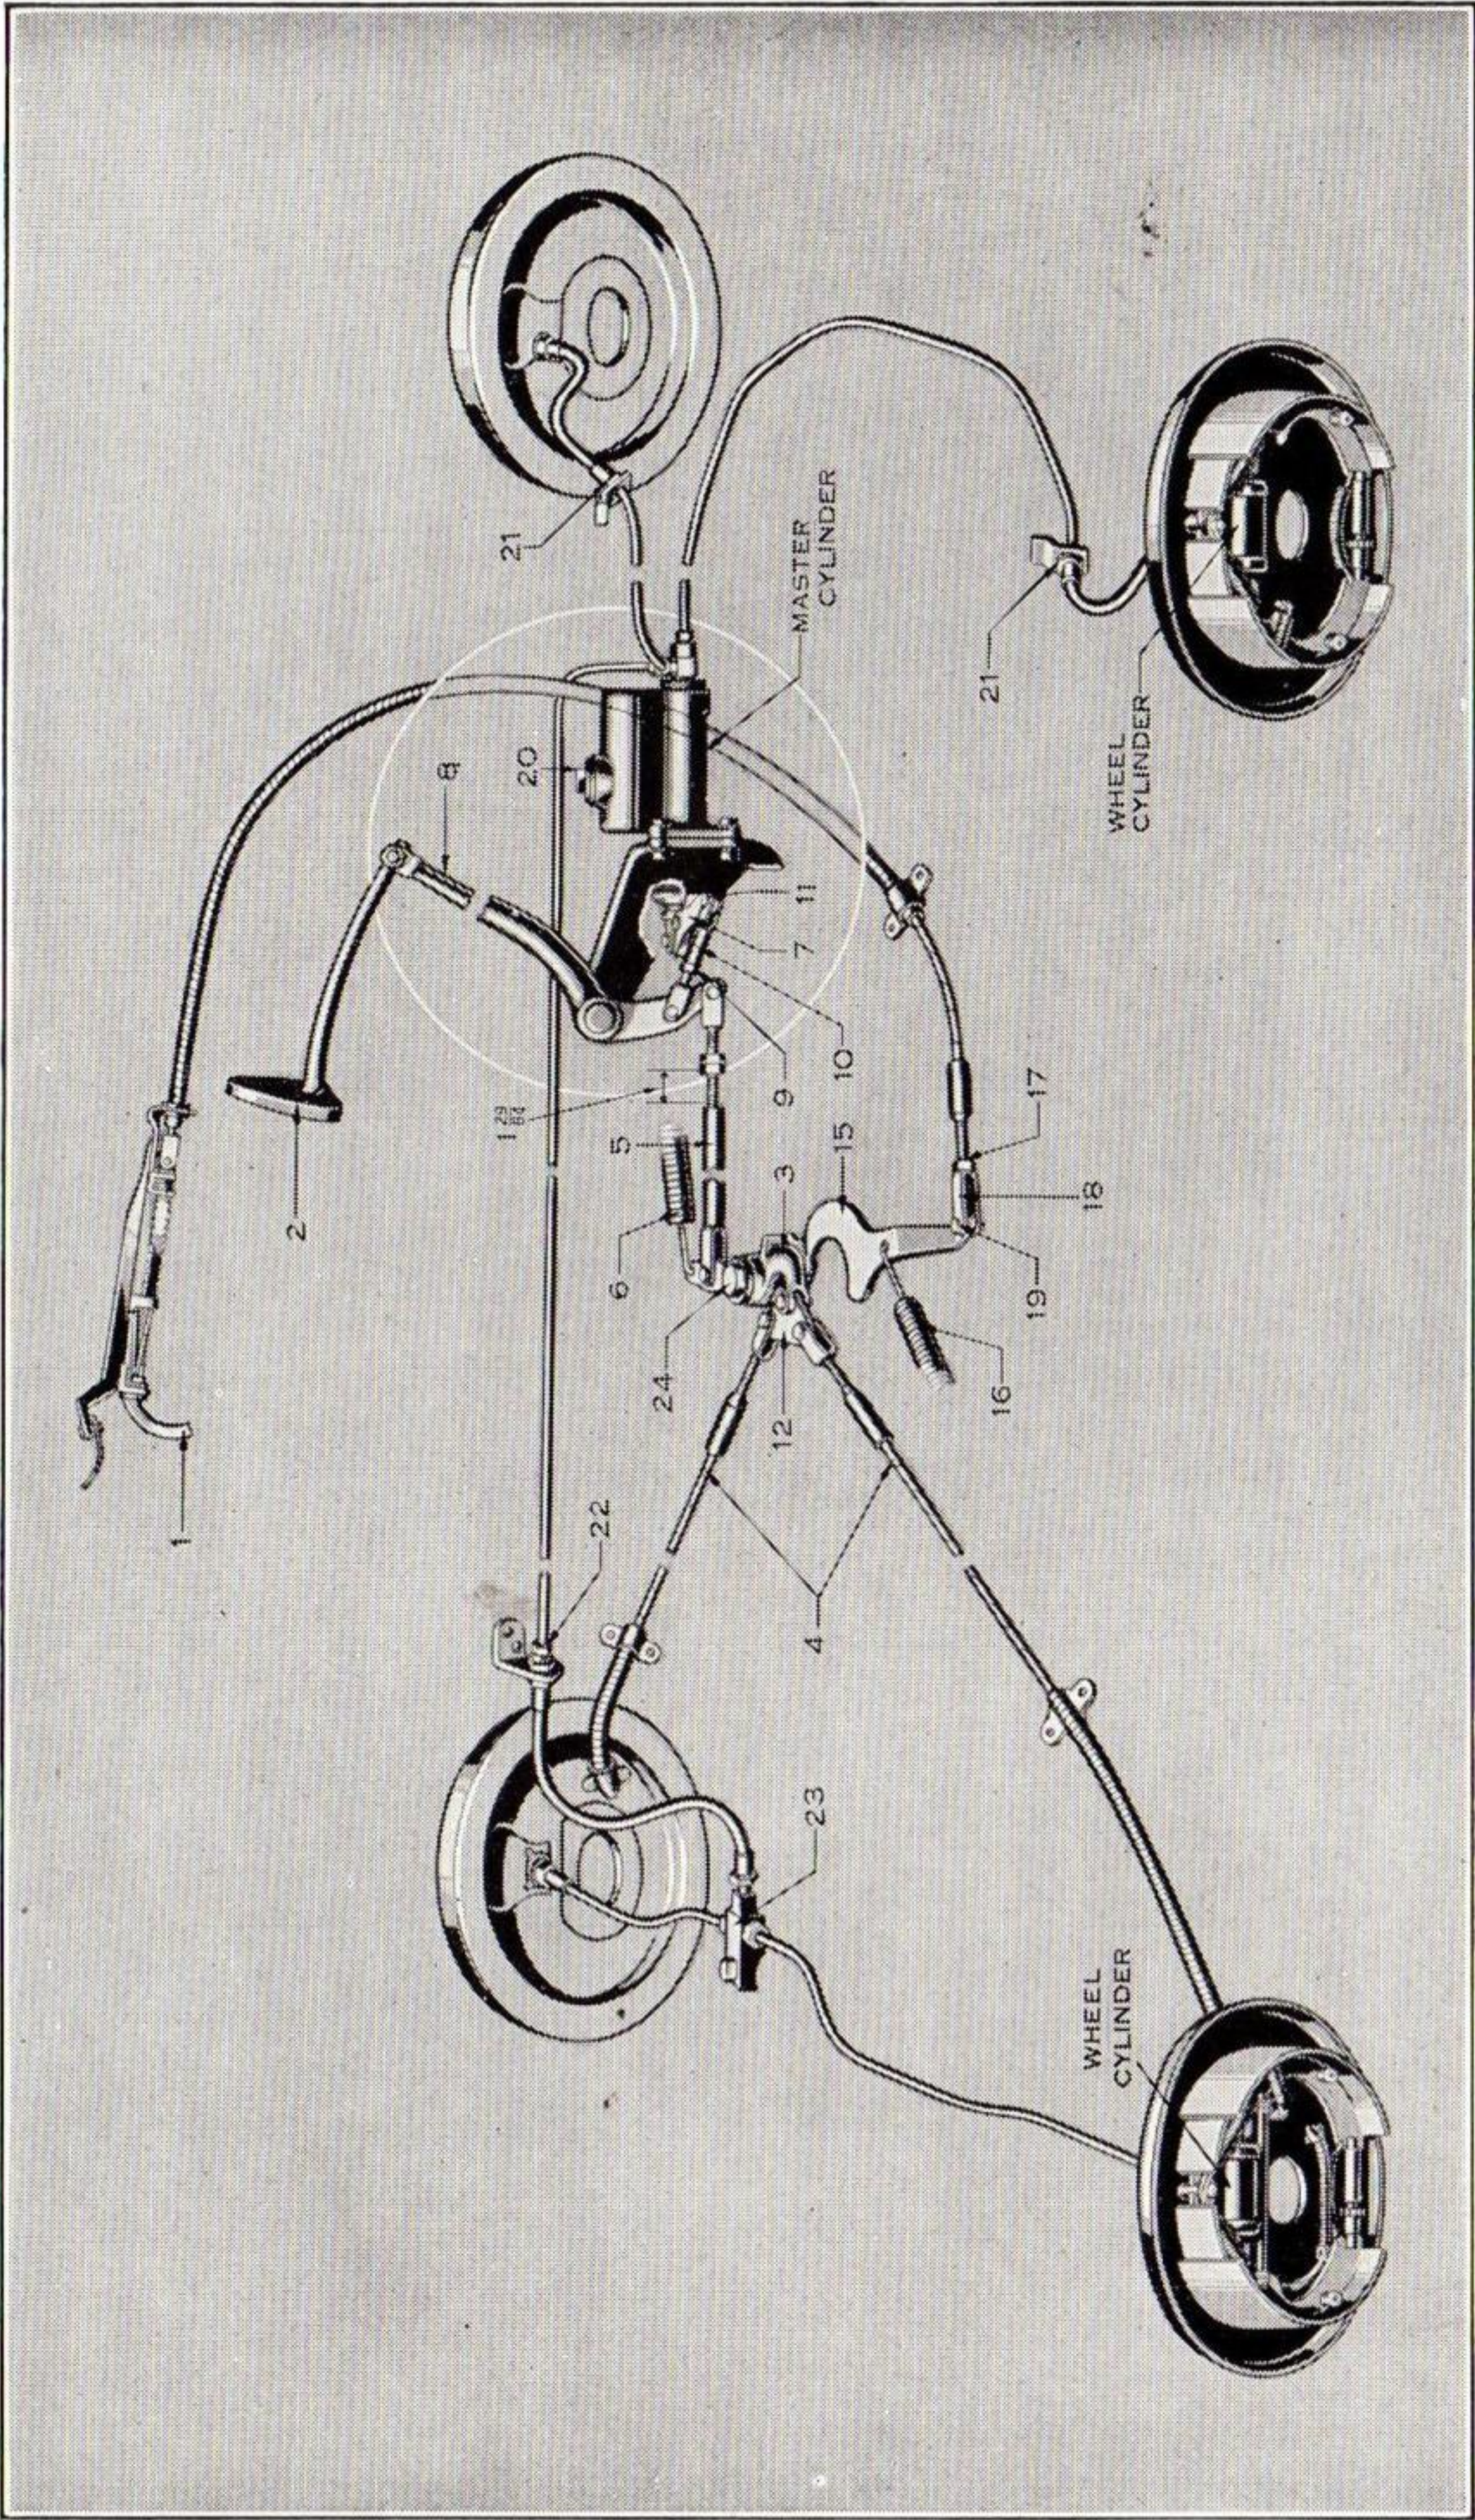

Figure 24
removing the filler plug (20), Figure 24, wipe all parts free of dirt and take extreme care to prevent dirt getting into the cylinder.
The piston in the master cylinder is operated through the lever (7) and connecting link (10) from the brake pedal (8), Figure 24. In order to insure full return of the piston when the brake is released there must be $\frac{1}{4}$ " clearance between the pedal (8) and the floor board. This clearance is obtained by loosening lock nut (9), removing clevis pin (11), and turning connecting link (10) to increase length until clevis pin (11) just enters the rod with the pedal shank (8) $\frac{1}{4}$ " from the toe board and the bell crank against its stop. Reinsert clevis pin (11) in bottom of bell crank, insert cotter key and tighten lock nut (9). This adjustment is important, as failure of the piston to return to the end of the cylinder will cause the brakes to drag.
the hand brake control. (Figure 24.)
The reservoir should be kept at least half full at all times. Before removing the filler plug (20), Figure 24, wipe all parts free of dirt and take extreme care to prevent dirt getting into the cylinder.
With equalizer bar cable plate against stop, loosen brake pedal push rod lock nut, Figure 24, and turn adjusting nut until rear face is $1\frac{29}{64}$ inches from front end of push rod (5). Tighten lock nut. This adjustment is important to obtain proper mechanical follow-up to the hydraulic operation of the rear brakes.